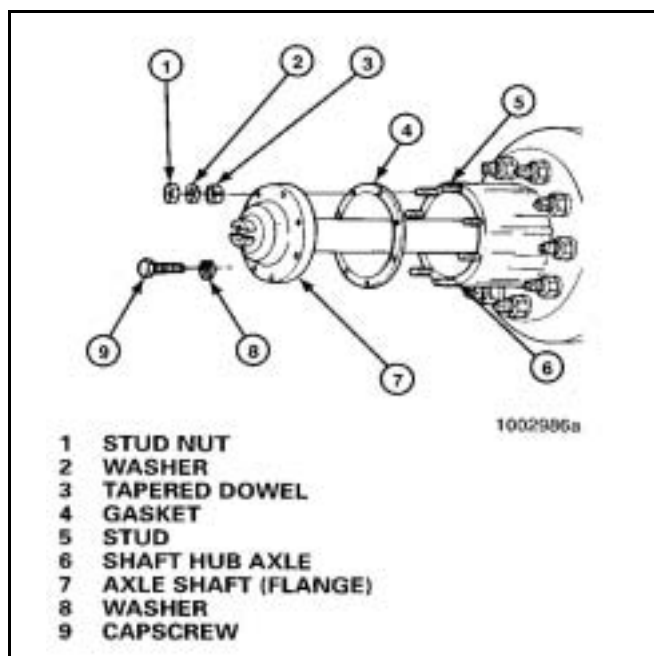

Figure 5
4. Remove the tapered dowels and separate the axle shafts from the main axle hub assembly. **Figure 5.**
4. Remove the tapered dowels and separate the axle shaft from the main axle hub assembly. **Figure 5.**